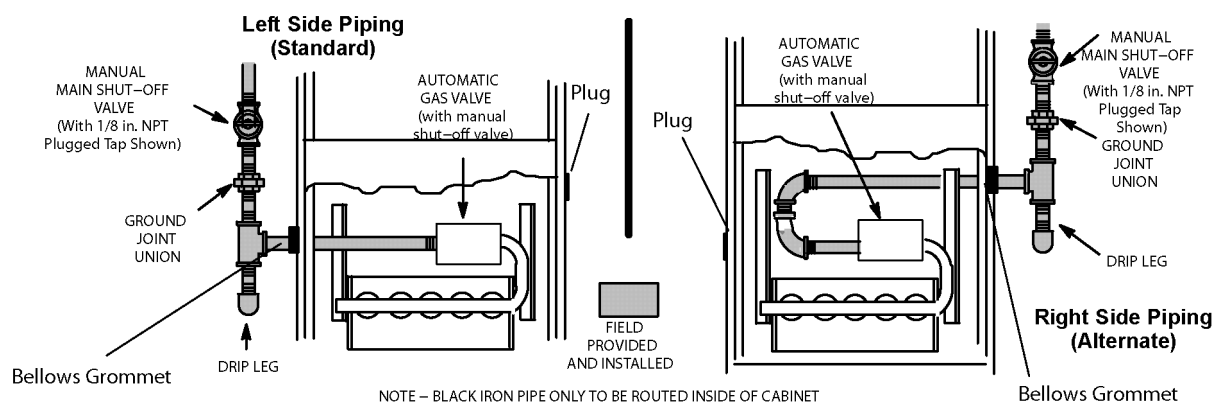

Figure 50
1. Gas piping may be routed into the unit through either the left or right hand side. Supply piping enters into the gas valve from the side of the valve as shown in Figure 50. Move bellows grommet to side of the cabinet which the gas line enters. Ensure opposite gas line entrance is plugged with supplied plug.
3. Gas piping must not run in or through air ducts, clothes chutes, chimneys or gas vents, dumb waiters or elevator shafts. Center gas line through piping hole. Gas line should not touch side of unit. See Figures 50.